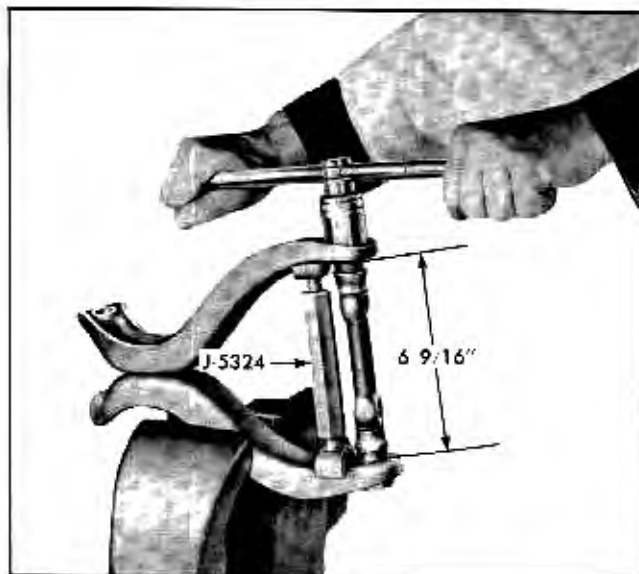

Fig. 3-21 Upper Control Arm Spreader J-5324 Positioned in Upper Control Arm
a. Place tool J-5324 in position and expand until distance between inner faces of arms is $6\frac{9}{16}$ " (Fig. 3-21).